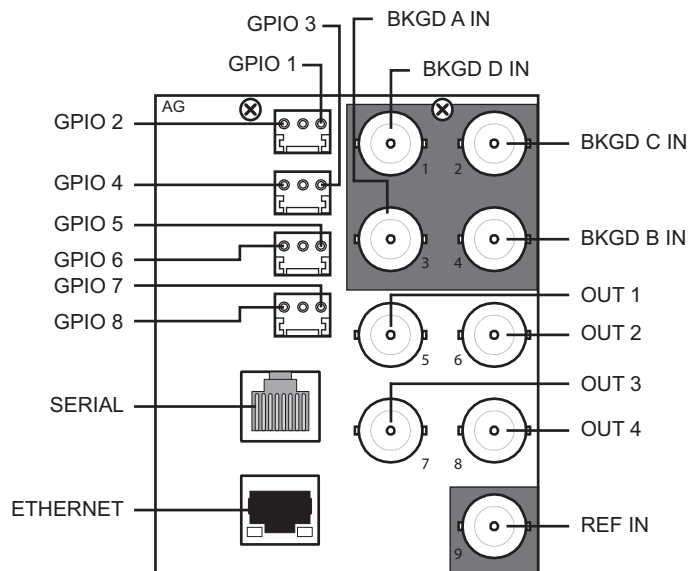

Figure 7 8320AR-061 Cable Connections
- the cabling designations for the 8320AR-061 rear module, refer to **Figure 7**.